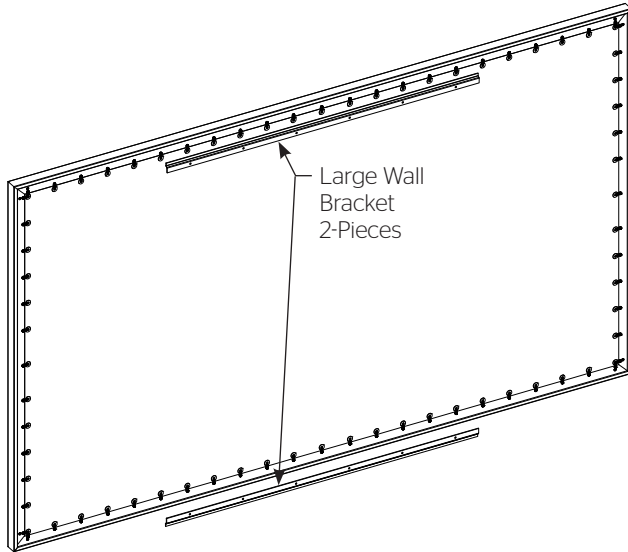

Figure 8
1. Secure the wall bracket to wall studs at the desired height. Make sure the bracket is level. The top of the frame will be 3 mm above the top of the wall bracket when mounted. You will need at least 16 mm clearance above the bracket to hang the screen. Figure 8 and 9 show the proper orientation for the supplied wall brackets.